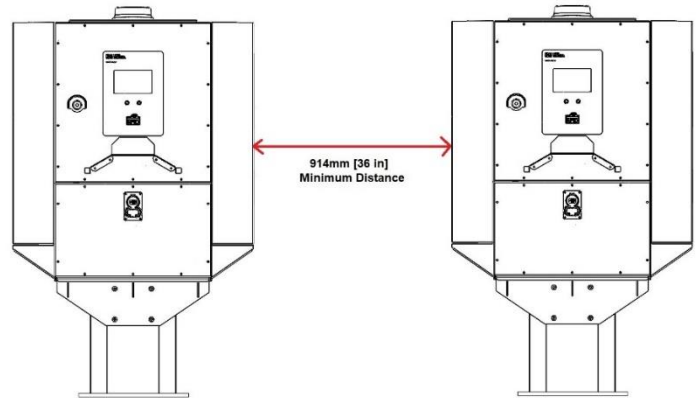

Figure 4 - 914 mm (36 in.) Minimum space between chargers
- b. The minimum space between two installed EV quick chargers should be 36 inches (914 mm) to help ensure good air flow and user accessibility around charger (Figure 4).